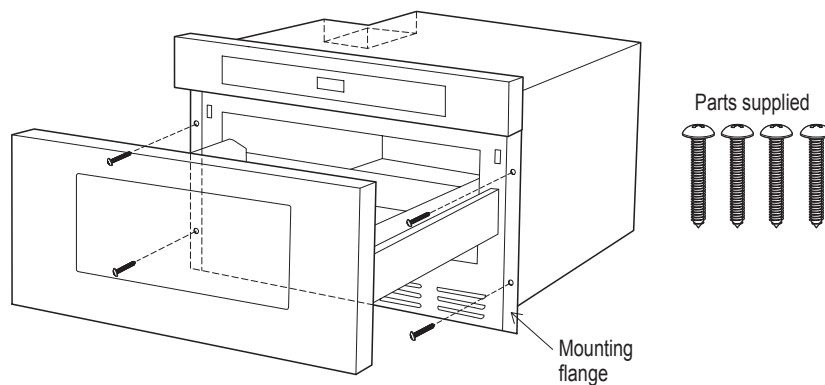

Figure 8
3. Slide the drawer in all the way until the mounting flange is flush with the face of the cabinet. See Figure 8.
4. Open the drawer. Using the 4 holes on the drawer as a template, drill pilot holes in the cabinet using a 1/16" bit. See Figure 8.